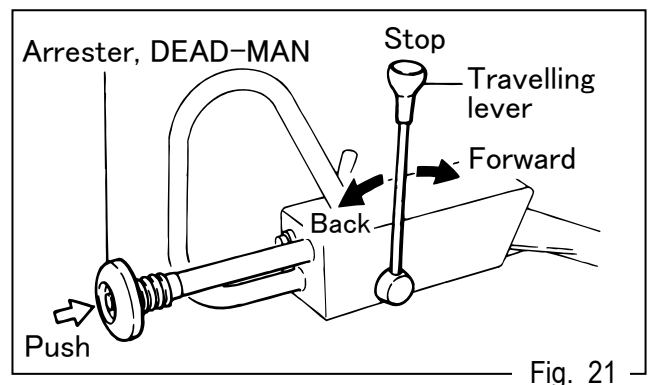

Fig. 21
- Pressing Arrester, DEAD-MAN provided while traveling in reverse, causes travel lever to return to neutral position to bring the machine to stop. (Fig.21)
Inspection (Figs.21 and 25)